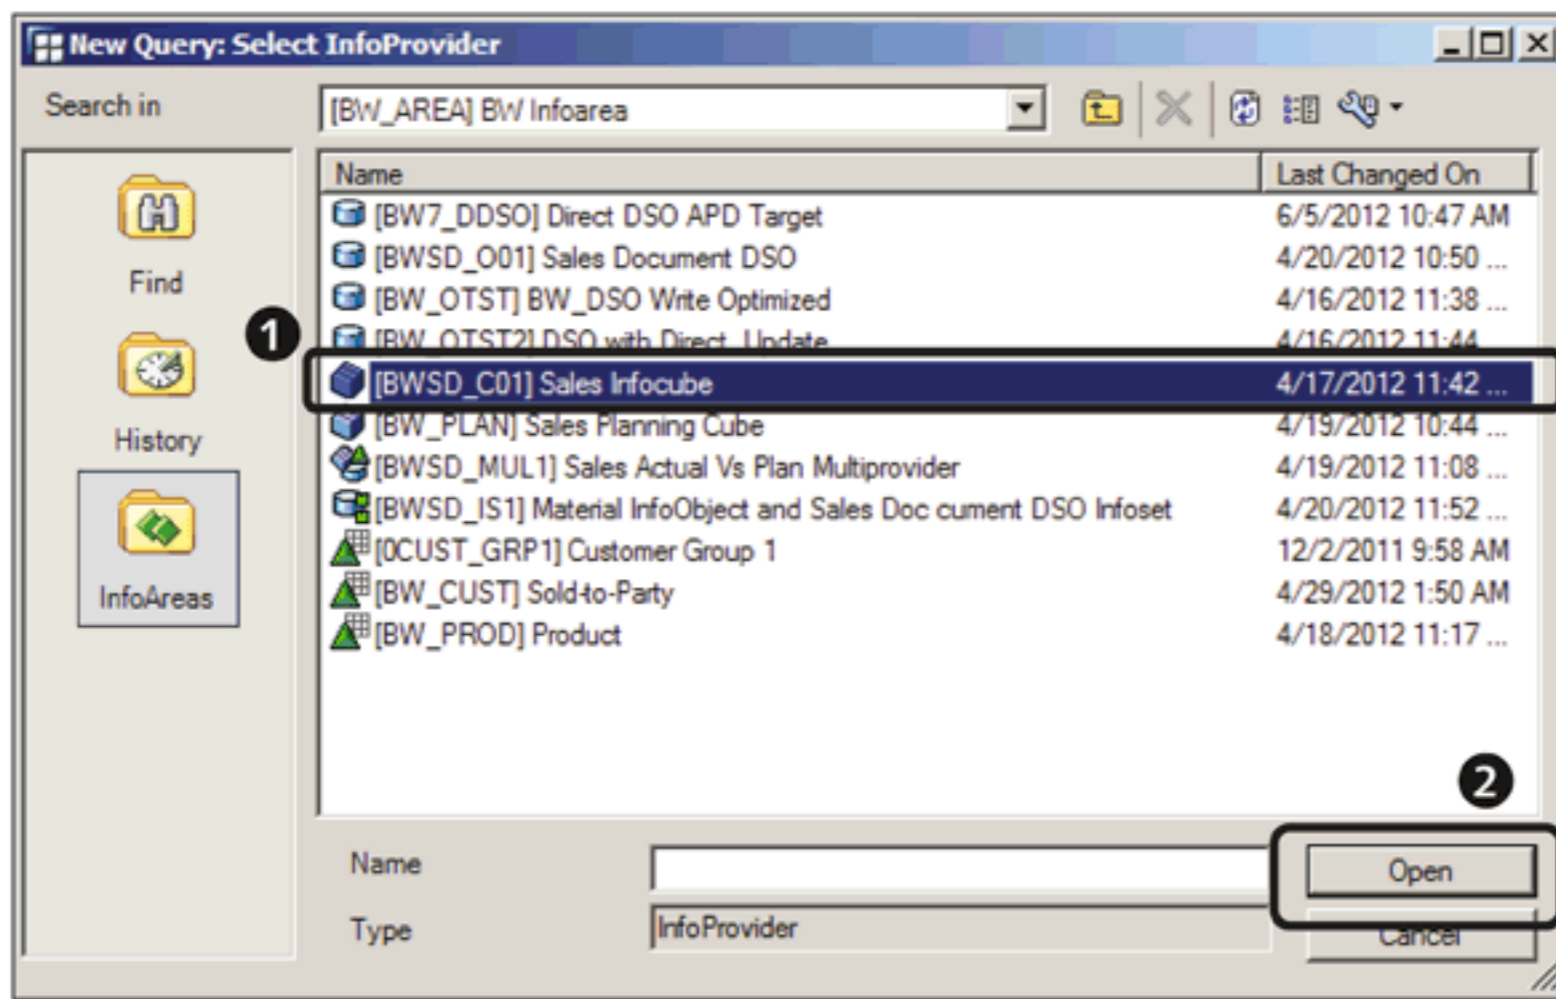

Figure 9.7 Select an InfoProvider
As mentioned earlier, a query in SAP NetWeaver BW has to be based on an InfoProvider. When you create a query, a window pops up asking you to select an InfoProvider (see Figure 9.7). On this screen, you can navigate through the InfoAreas to select the InfoProvider on which you want to create the query (1) and then click on the OPEN button (2) to return to the BEx Query Designer screen.